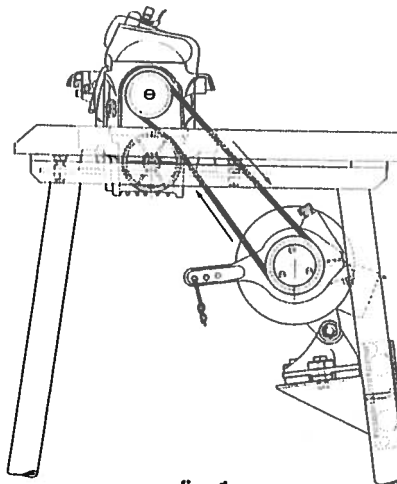

fig. 1
1. See that machine cradle is square to table top (fig. 1).
1. Line up driving belt square to machine and motor pulleys. (fig. 1)